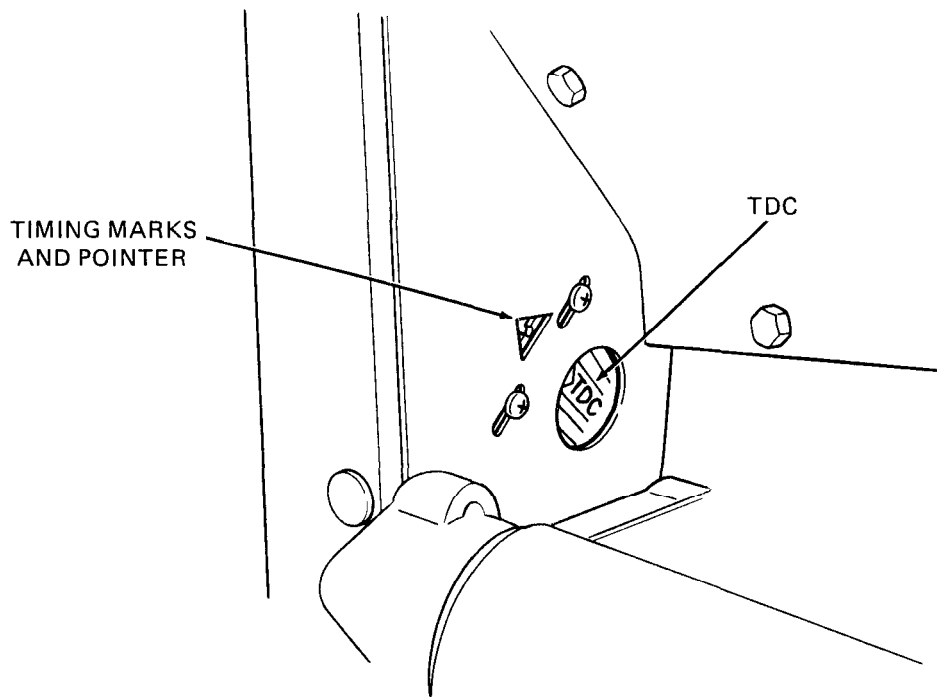

Figure 7-19. Piston at Top Dead Center to Set Engine Timing.
- (1) Remove inspection plug from flywheel housing to expose timing pointer and timing marks on flywheel. The inspection plug is located on the flywheel housing between the starter motor and the engine crankcase (see Figure 7-19).
- (2) Rotate engine clockwise (viewed from flywheel) until piston is at top dead center (TDC) of compression stroke (both valves closed) as indicated by the flywheel timing marks and pointer. See Figure 7-19.